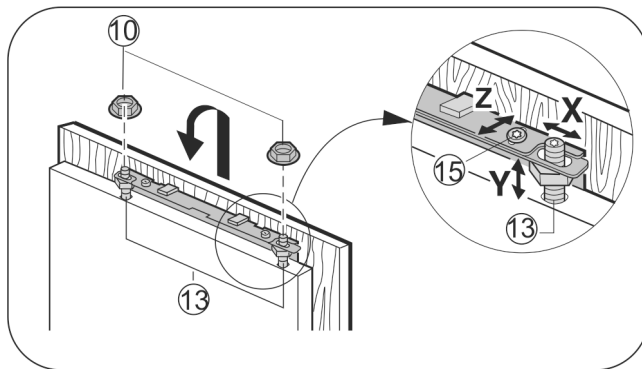

Fig. 19
- ▶ Attach the unit door to the adjusting bolts Fig. 19 (13) and loosely screw the locknuts Fig. 19 (10) onto them.
- ▶ To align the door vertically Y and in the lateral inclination: adjust adjusting bolts Fig. 19 (13) with a screwdriver.
- ▶ Tighten locknuts Fig. 19 (10).